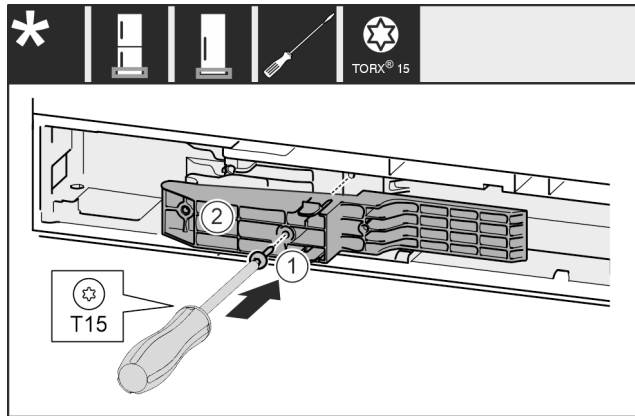

Fig. 33
- Insert adapter Fig. 33 (1) in the recess on the handle side.
- Tighten screw Fig. 33 (2) with screwdriver.